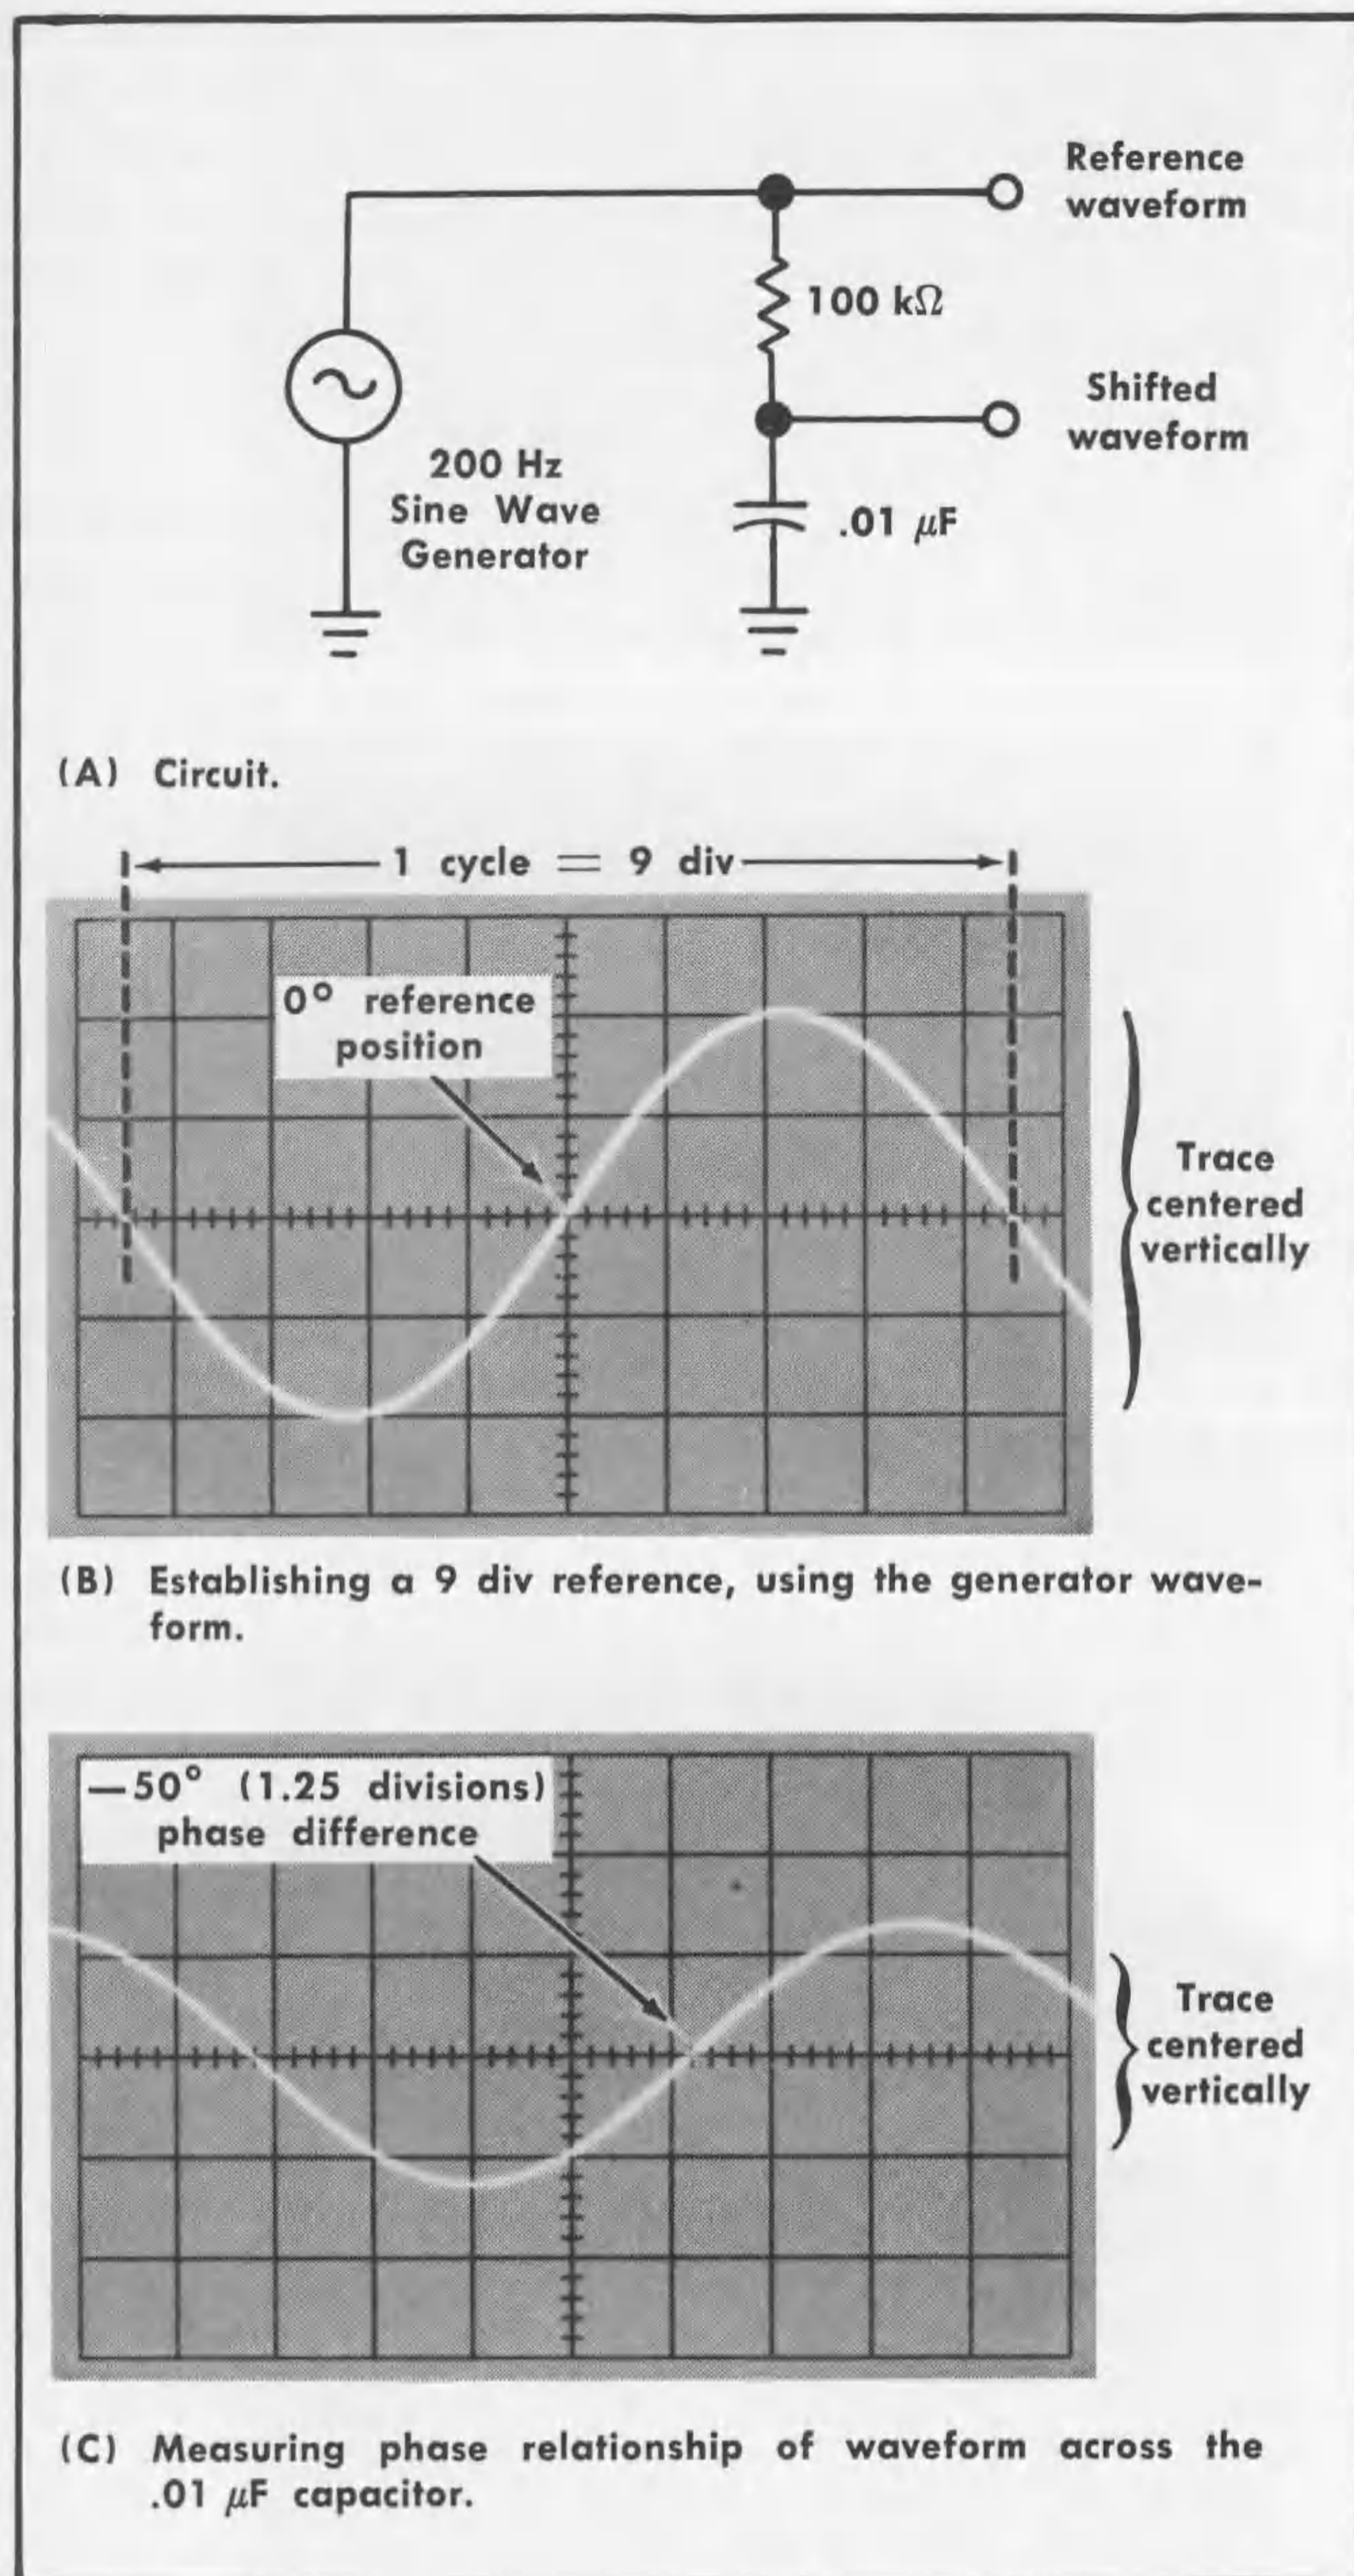

Fig. 2-14. Measuring phase relationships.
External triggering is extremely useful in measuring phase difference between signals. The circuit in Fig. 2-14(A) is used to demonstrate this feature.
Connect the reference waveform to the external triggering and the vertical input connectors. Select negative slope external triggering and adjust the triggering and horizontal controls so that one cycle of the reference signal covers 9 divisions of horizontal trace, passing through  $0^\circ$  at the intersection of the graticule center lines as in Fig. 2-14(B). This causes each division of horizontal base line to display  $40^\circ$  of the waveform being applied.
Disconnect the reference waveform from the vertical input. Connect the shifted waveform to the vertical input connector and measure the amount of separation between the graticule center vertical line and the waveform  $0^\circ$  point as in Fig. 2-14(C). Convert the amount of separation to degrees, using the  $40^\circ/\text{div}$  value which was established previously. If the  $0^\circ$  point has moved to the left, the waveform leads the reference. If it has moved to the right, the waveform lags the reference.